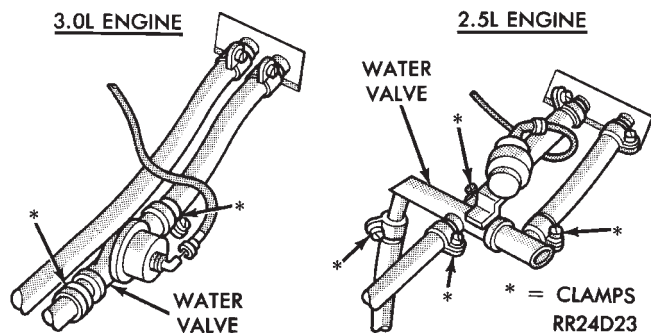

Fig. 10 Water Control Valve
- (1) Drain engine cooling system. Refer to Group 7, Cooling System.
- (2) Locate and loosen clamps at water control valve (Fig. 10).